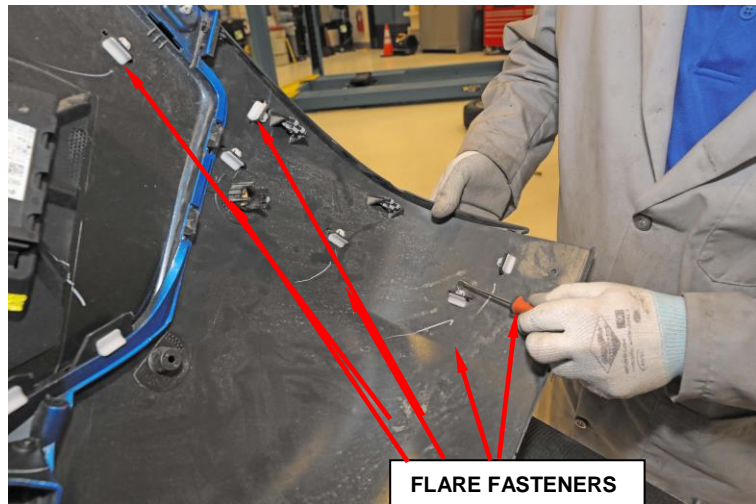

Figure 17 – Flare Fasteners
3. Remove flare from fascia by releasing the barbed fasteners (Figure 17).
6. Install flare to fascia by aligning and seating the barbed fasteners (Figure 17).